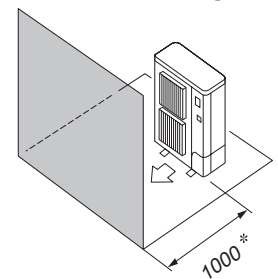

Fig. 4-9
- ④ Obstacles at front only (Fig. 4-9)